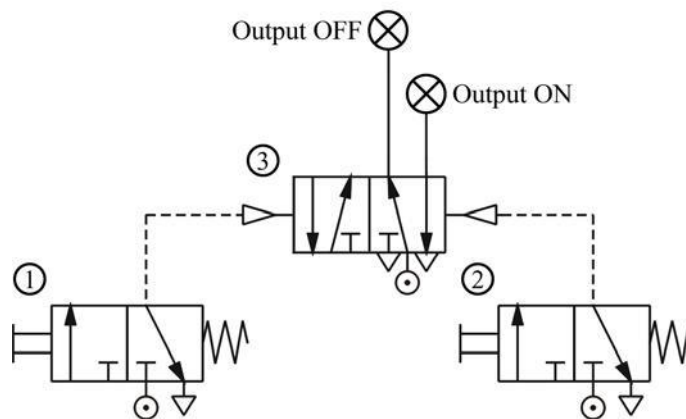

Fig. 25 Memory function circuit
Memory is a common basic function. It can keep a component at a certain state permanently until there is a change of signals. Fig. 25 shows a memory function circuit. When control valve ① is operated momentarily (that is, pressed for a short time), the output signal of the 5/2 directional control valve ③ will be set to ON. The signal will stay that way until control valve
② is operated momentarily and generates another signal to replace it, causing it to stay permanently at OFF.